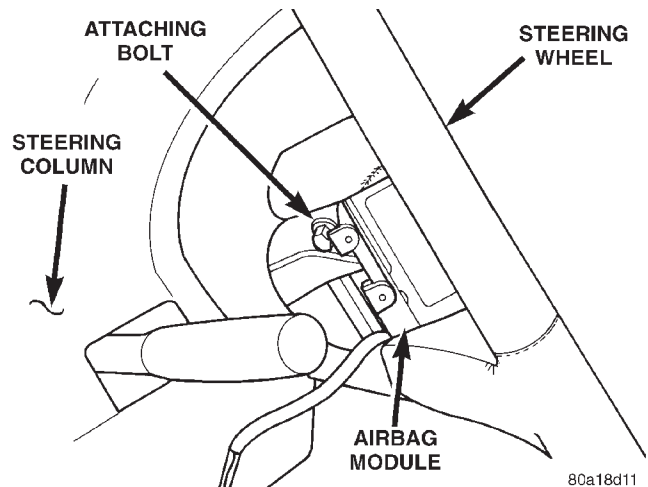

Fig. 9 Airbag Module Attaching Bolts
(11) Remove the 2 bolts, 1 on each side of the steering wheel, attaching the airbag module to the steering wheel (Fig. 9).
(17) Install airbag module into center of steering wheel. Install **only the 2 original or correct replacement** airbag module attaching bolts (Fig. 9). Torque the 2 airbag module attaching bolts to 10 N·m (90 in. lbs.).